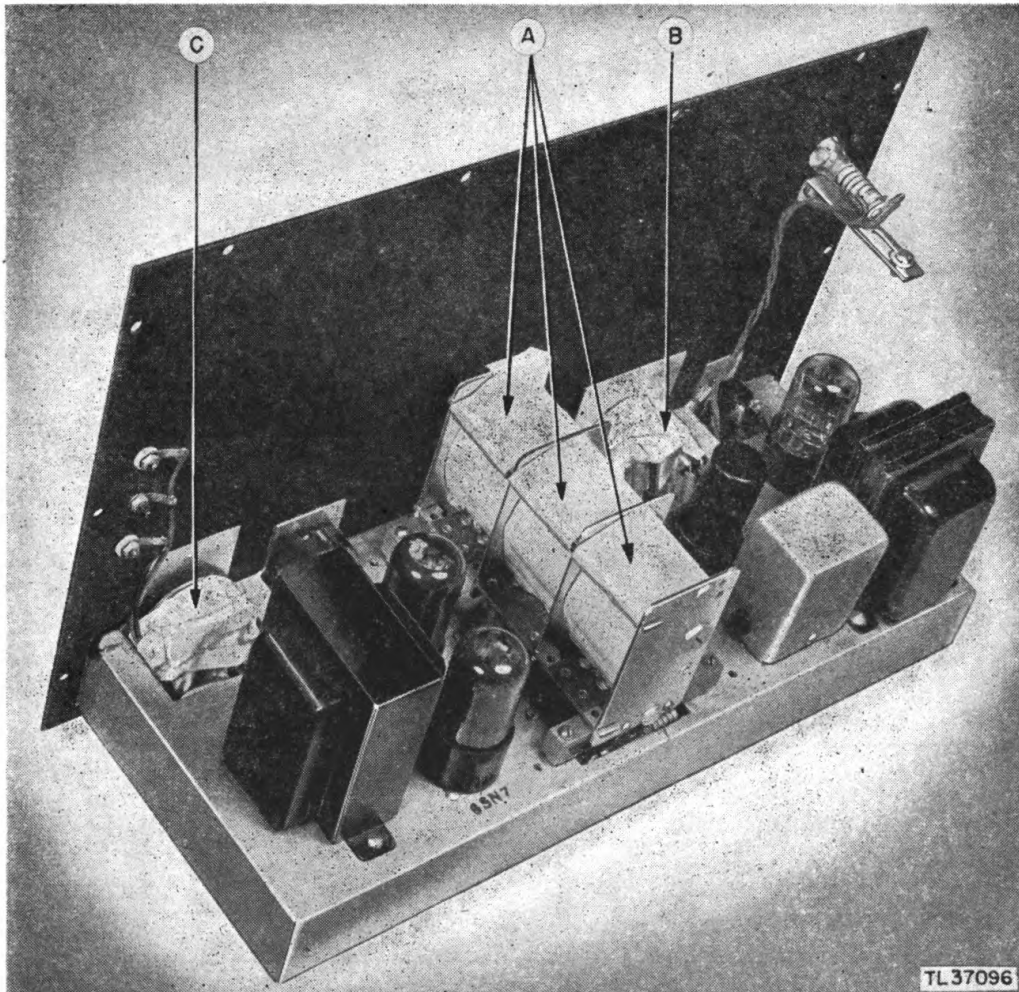

Figure 6. Top of chassis showing masking details.
(3) **MASKING.** Cover the following components with masking tape as shown in figures 6 and 7.
(a) Plates and rotor contacts on the tuning capacitor, item A, figure 6.
(b) Contacts on the band switch, item B, figure 6.
(c) Contacts on the output impedance switch, item C, figure 6.